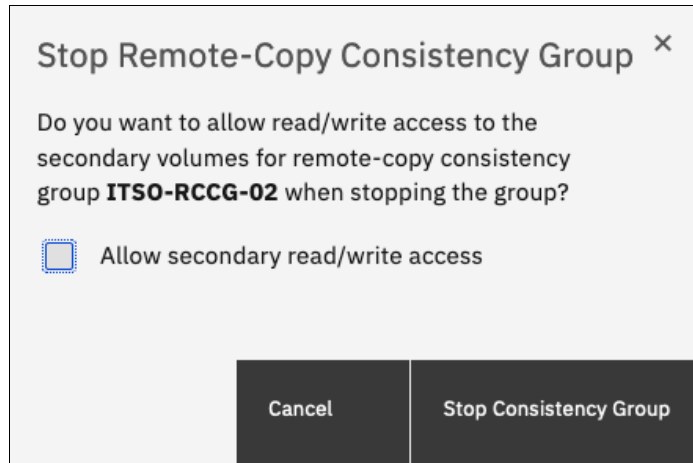

Figure 10-144 Granting read/write access write to the auxiliary volumes
- When an RC consistency group is stopped, access to the auxiliary volumes can be changed so it can be read and written by a host. A confirmation message opens, as shown in Figure 10-144 on page 715.